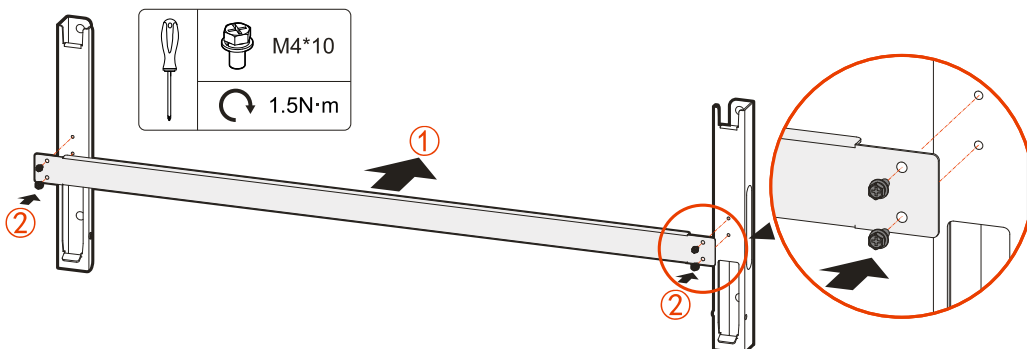

Figure3-11 Assembling the wall mount
- Step 1 Use the four M4*10 combination bolts in the random accessories to fix the wall mount assembly through the connecting rod, as shown in Figure3-11.